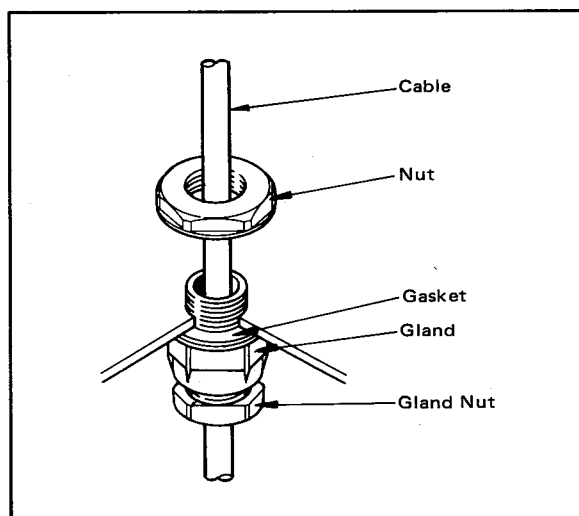

Figure 2-7. Cable Gland.
- (4) Mount the cable gland on the wiring hole (see Figure 2-7). Attach the nut in position and tighten the gland firmly with the gland nut loosened to prevent the cable twisting.